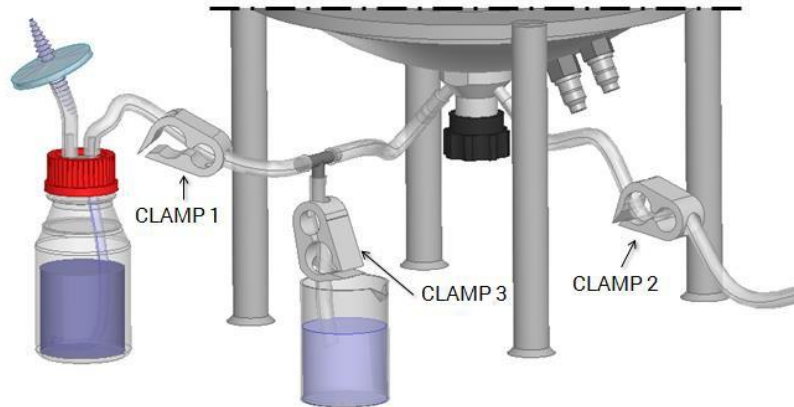
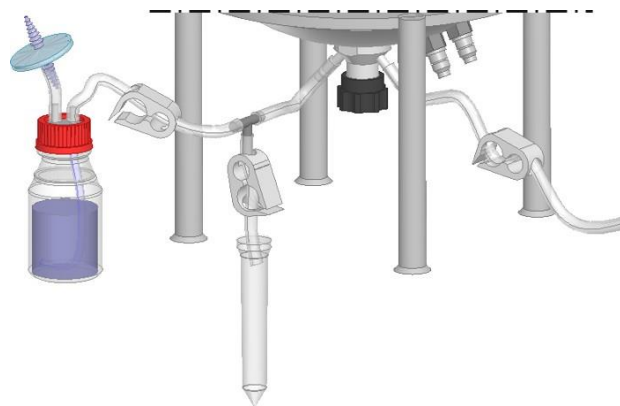

Figure 22.2. Sampling channel sterilization
Figure 22.3. Sampling
In the bioreactor system an option to sterilize the sampling channel with steam is provided. Steam sterilized sampling line is shown in Figure 22.2.
In Figure 22.2 port (2) is used for the steam supply. The sterilization procedure is performed as follows:
- 1) Connect port (2) to the steam supply via temperature resistant silicone tube with an installed clamp (2);
- 2) Connect a short silicone tube to port (1). Connect the other end of the tube to a T-shaped divider;
- 3) Connect a short silicon hose with a clamp (3) to one end of the divider and place the end of the tube into a beaker filled with 70 % ethanol;
- 4) Connect a longer silicone hose with a clamp (1) to the second end of the divider and connect it to a small bottle filled with deionized water;
- 5) Sterilize the sampling channel by opening the clamps (1) and (2), and open the steam supply. Let the steam flow through the channel for about 1 – 2 min to sterilize the sampling line;
- 6) After sterilization has been carried out, close the clamps (1) and (2);
- 8) Open the clamp (3) and collect the necessary sample volume into the container, see Figure 22.3;
- 2) When everything is prepared for the harvesting procedure, connect the harvesting tube to the sampling channel in aseptic conditions see Figure 22.2;
- 4) Open the clamp (3) (see Figure 22.2) and wait until the entire fermentation environment has been drained into the bottle;
- 5) Close the bioreactor tap and the clamp (3);